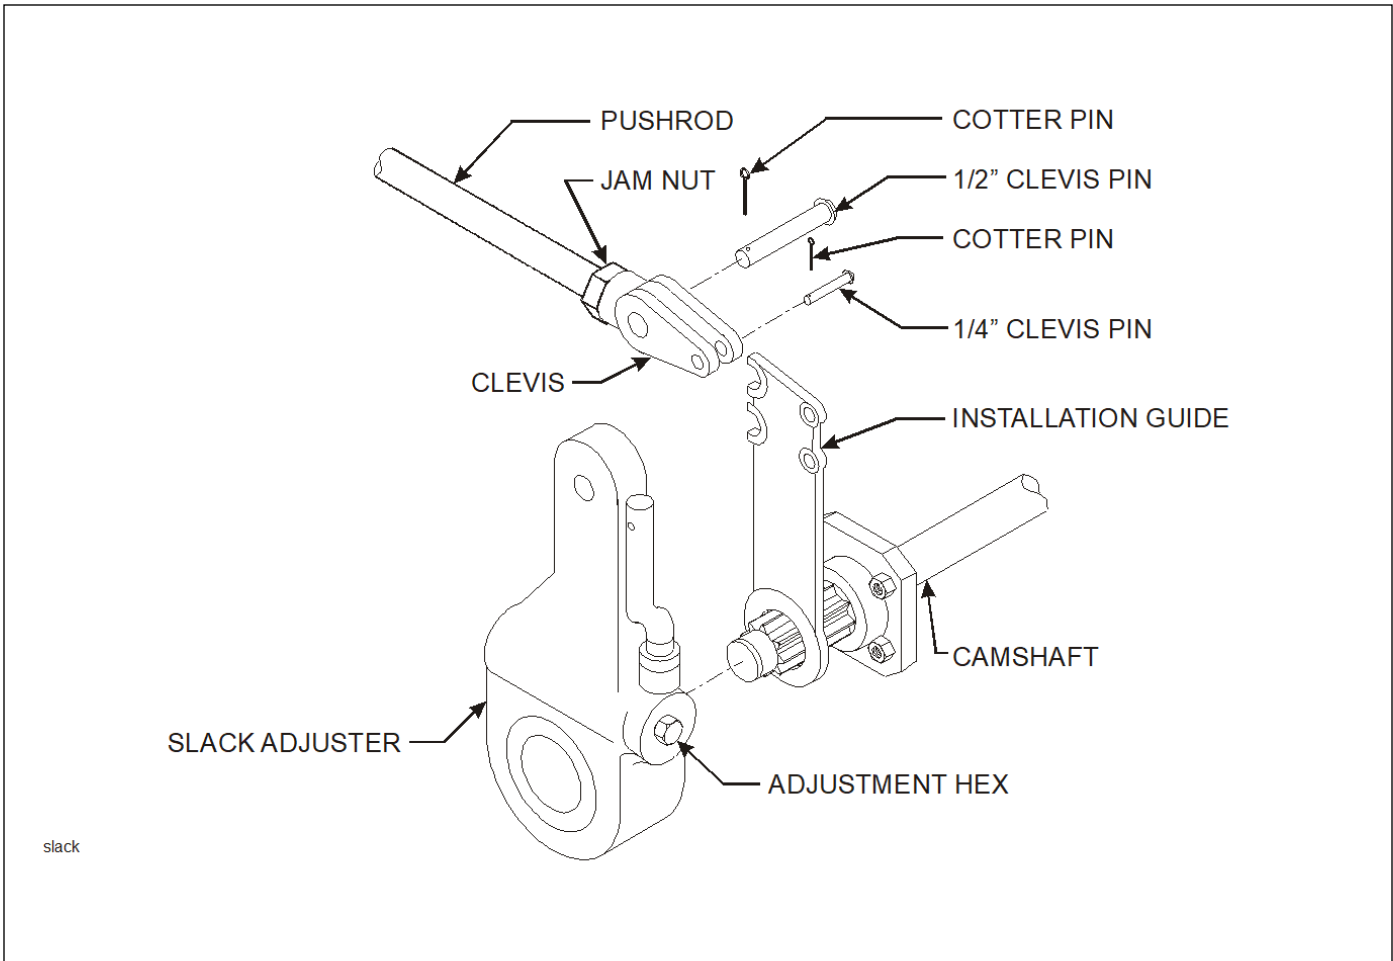

Figure 4-11: Automatic Slack Adjuster
4. Disconnect the slack adjuster from the connecting rod by removing the clevis pin (**See Figure 4-11.**)
4. Remount the brake chamber on the axle brackets and reconnect the air service hoses and the slack adjuster connecting rod (**See Figure 4-11.**)
2. Check that the push rod is fully retracted, apply air to release spring brake **(See Figure 4-11.)**
3. Remove the existing slack adjuster and clevis - DO NOT REMOVE EXISTING JAM NUT (See Figure 4-11.)